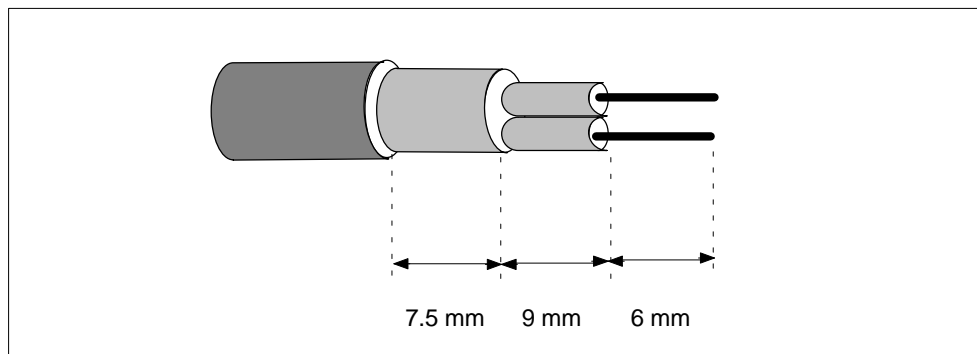

Figure B-9 Stripping Length for Connecting to the Bus Connector (6GK1 500-0EA02)
1. Prepare the cable ends in accordance with the dimensions shown in Figure B-9.